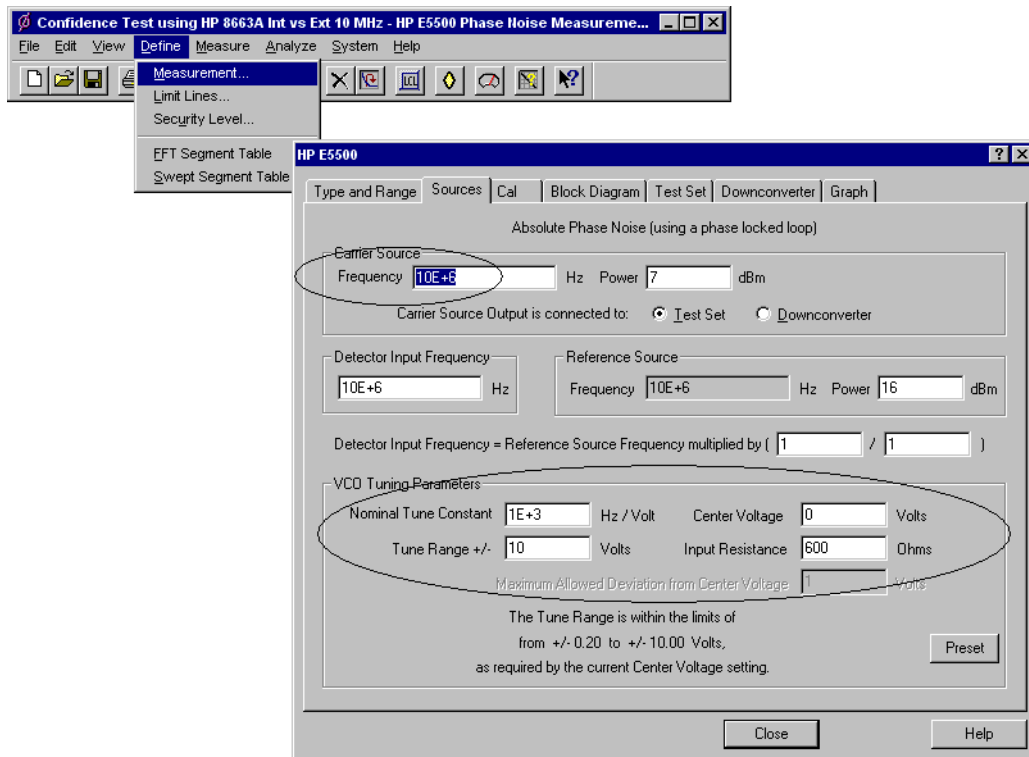

Figure 7-24 Enter Source Information
- 5 Using Figure 7-24 as a guide, navigate to the **Sources** tab.